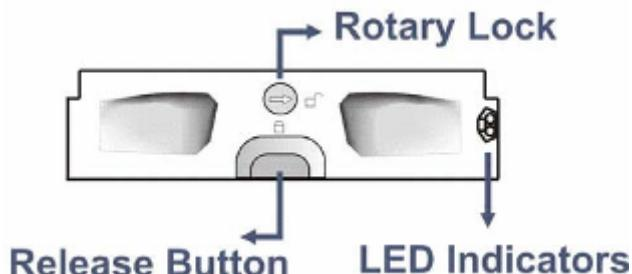

Figure 2-5: Front View of an Individual Drive Tray
- Step 1.** Make sure the rotary bezel lock is in the unlocked position, i.e., the groove on its face is in a horizontal orientation as shown in *Figure 2-5*. If the groove is in a vertical position, then the bezel lock is locked and the front flap on the drive tray cannot be opened.